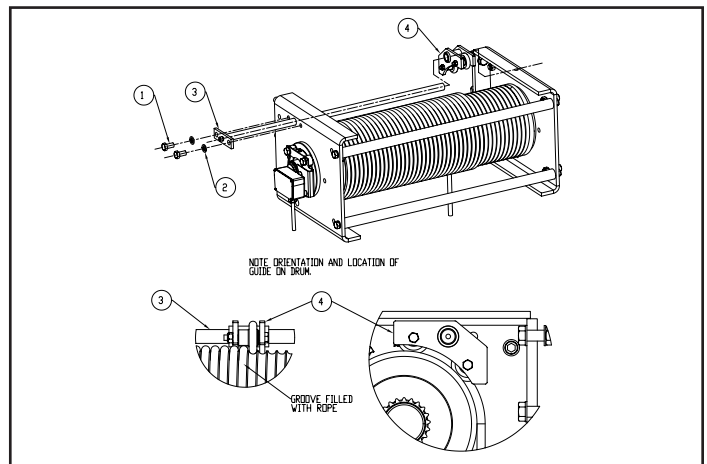

Figure 5-3b. Rope Guide Assembly (15 TONNE "D" Frame)
- (4) Remove the split plastic shroud (Item 2) from the drum. When reassembling the rope guide, be sure the plastic shroud (Item 2) fits snugly in the rope guide body groove.
- (5) Thoroughly clean and inspect all components.
- (6) Follow steps in reverse to reassemble. Be sure to re-grease the rope guide with **MPG** (Paragraph 4-7), after assembling.
- c) **Disassembly for 15 TONNE "D" Frame.** Refer to Fig. 5-3b. For further assistance in locating components, refer to the parts list in Section IX.
- (1) Remove hex head cap screws and lock washers (Items 1 and 2) Pull back on drum frame rod assembly (Item 3) until the free end pulls free of the gearcase end drum bracket.
- (2) Slide the rope guide assembly (Item 4) off the end of the drum frame rod and remove from drum groove area. Note the required orientation of the rope guide assembly for re-installation.
- (3) Thoroughly clean and inspect all components.
- (4) Follow steps in reverse to re-install, paying attention to orientation and making sure to seat the assembly into the correct drum groove. Be sure to regrease the rope guide with MPG (Paragraph 4-7), after assembling.